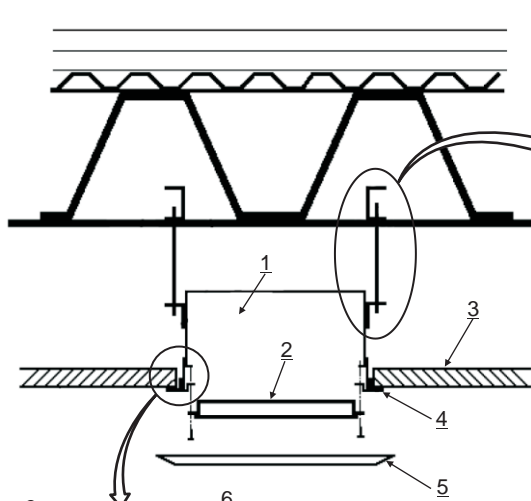

Fig.2
1. Assemble Support Strap (2) to fan housing with Self-Tapping Screw #8 x 1/2" (9).
2. Assemble Dry Wall Angle Shield (7) to fan housing with Self-tapping Screws #8 x 1/2" (9) every 6" as per Fig. 2 Clearance "C" between fan and dry wall must be 1/8" minimum and 1/4" maximum.
NOTE: Drywall opening must be cut to accommodate fan housing as per **Fig. 2**
1. Assemble Support Strap (9) to fan housing with self-tapping screw #8 x 1/2".
2. Assemble Ceiling Tile Support Angle (4) to fan housing with self-tapping screw #8 x 1/2" spaced every 6".
3. All ceiling tile supported on angle (4) must be trimmed as per Fig. 2. Allowing necessary expansion as per dimension "C", minimum 1/8" & maximum 1/4".
4. Secure "U" channel (7) to steel joist.
NOTE: Ceiling tile opening must be cut to accommodate fan housing as per Fig. 2